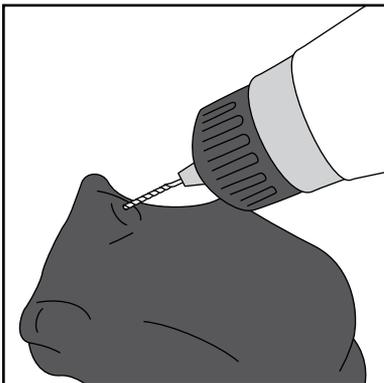
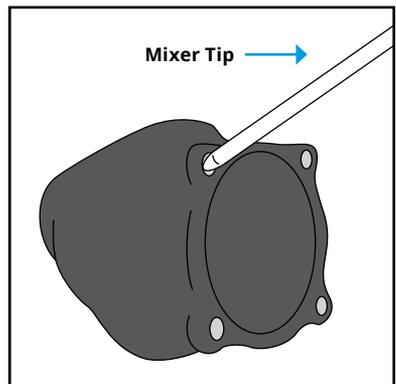

Figure 8
Figure 9
15. When using glue-in socket attachment versions, use coarse sandpaper to abraid one end of the PEEK rods approximately ½ in. (13 mm) from the end. This will ensure proper adhesion to the socket. Drill ⅙ in. (2 mm) holes at the proximal ends of the cavities created by the fabrication dummies (see Figure 8). This allows trapped air and excess adhesive to escape when the PEEK rods are inserted. Insert the mixer tip of the adhesive cartridge into each of the cavities created by the fabrication dummies, and fill each cavity ⅓ full with urethane adhesive (see Figure 9). Insert a PEEK rod into each of the cavities created by the elastomer fabrication dummies and ensure they are fully seated in the cavities. Then, twist each of the rods 180° to ensure the ends are fully coated with adhesive. Hold rods in place until the adhesive is set (approximately 2 minutes).